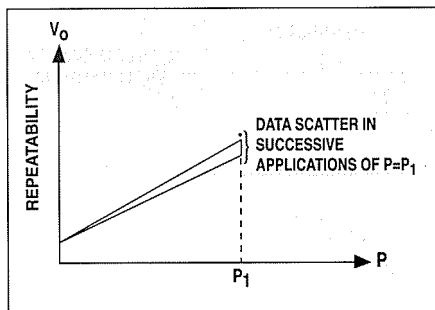

Figure 13. Repeatability refers to the ability of a pressure sensor to provide the same output with successive applications of the same pressure.
**Repeatability** refers to the sensor's ability to produce the same output with consecutive applications of the same pressure (see Figure 13, page 35).